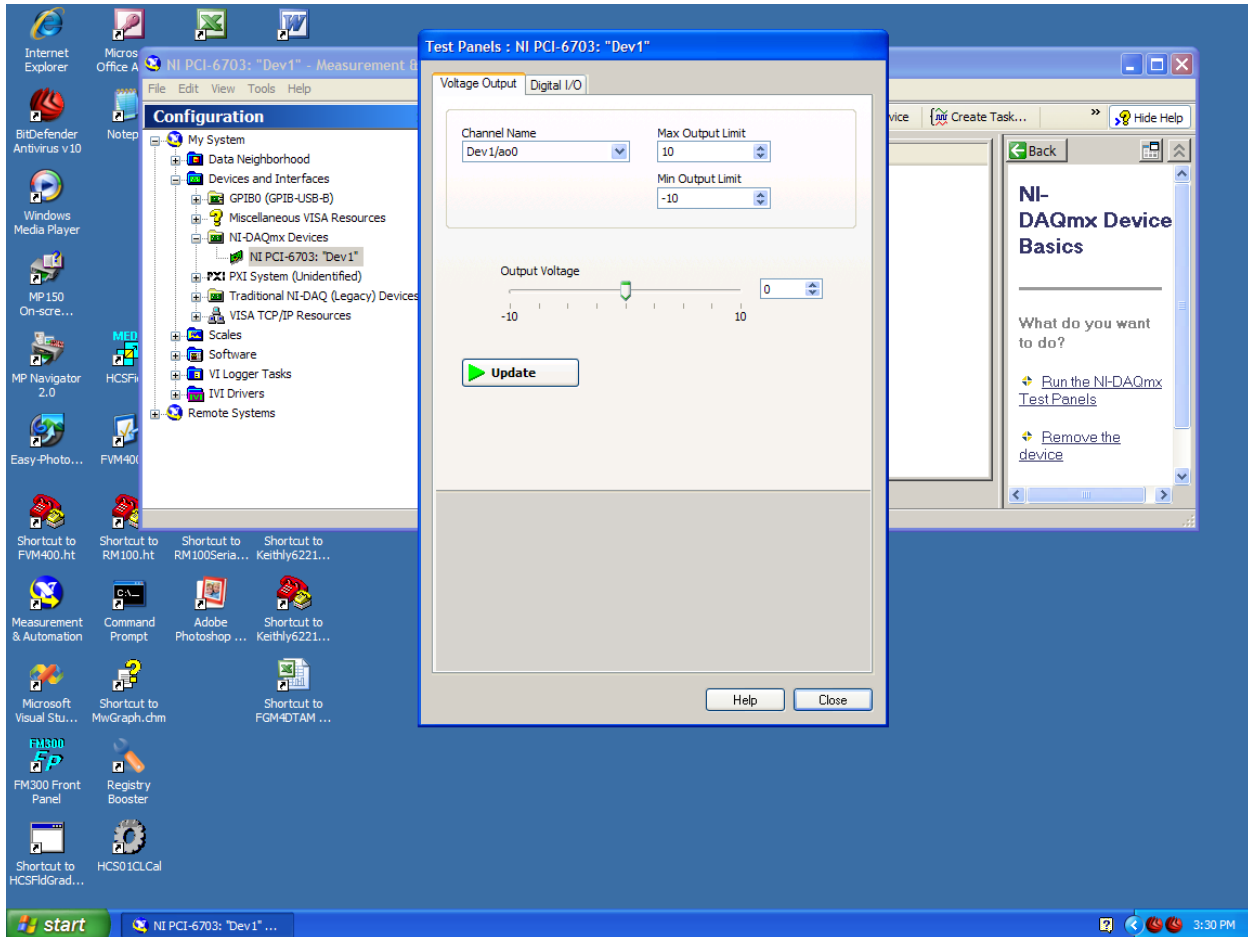

Figure 23 Measurement and Automation Test Panel voltage output display.
4. Select **Test Panels** (see Fig. 23 below).